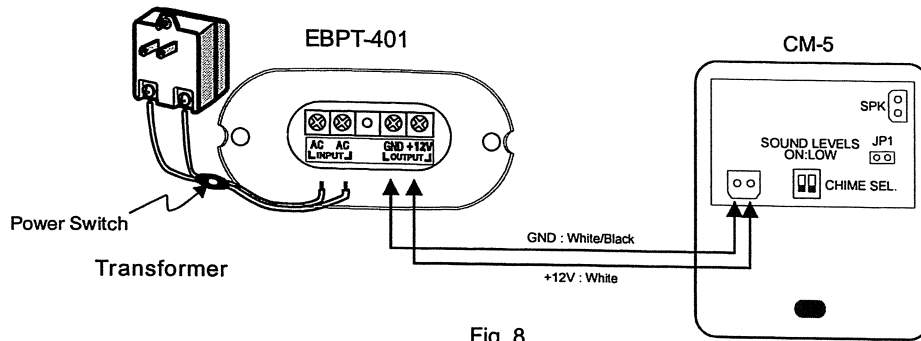

Fig. 8
6) Locate +12VDC, GND connector on the chime board and make sure all wiring as per Fig. 8.